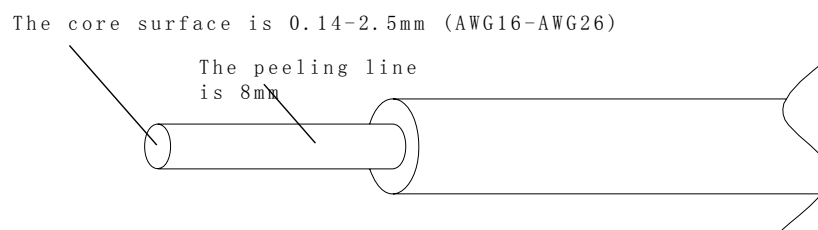

Figure 2-24 Requirement for Signal Line
- Step 3: Process two ends of the signal into easy connection shape as shown in figure 2-24.